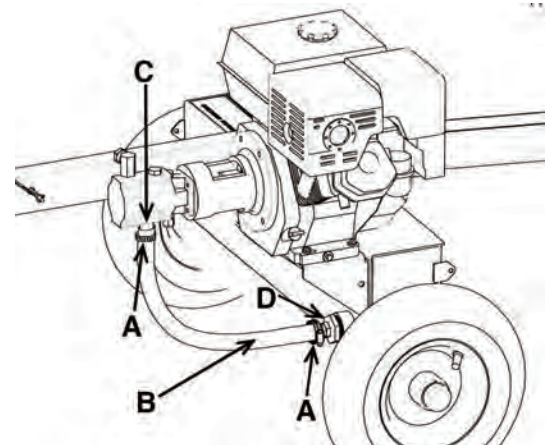

Figure 8
- 1) Slightly loosen the hose clamps (A) Fig.8 at both ends of the suction hose (B) (transparent hose).
- 2) Remove the shipping plug from the pump then slide suction hose onto the bottom fitting (C) of the pump, secure hose by tightening the hose clamp.
- 3) Slide suction hose onto the axle/tank fitting (D), secure hose by tightening the hose clamp.